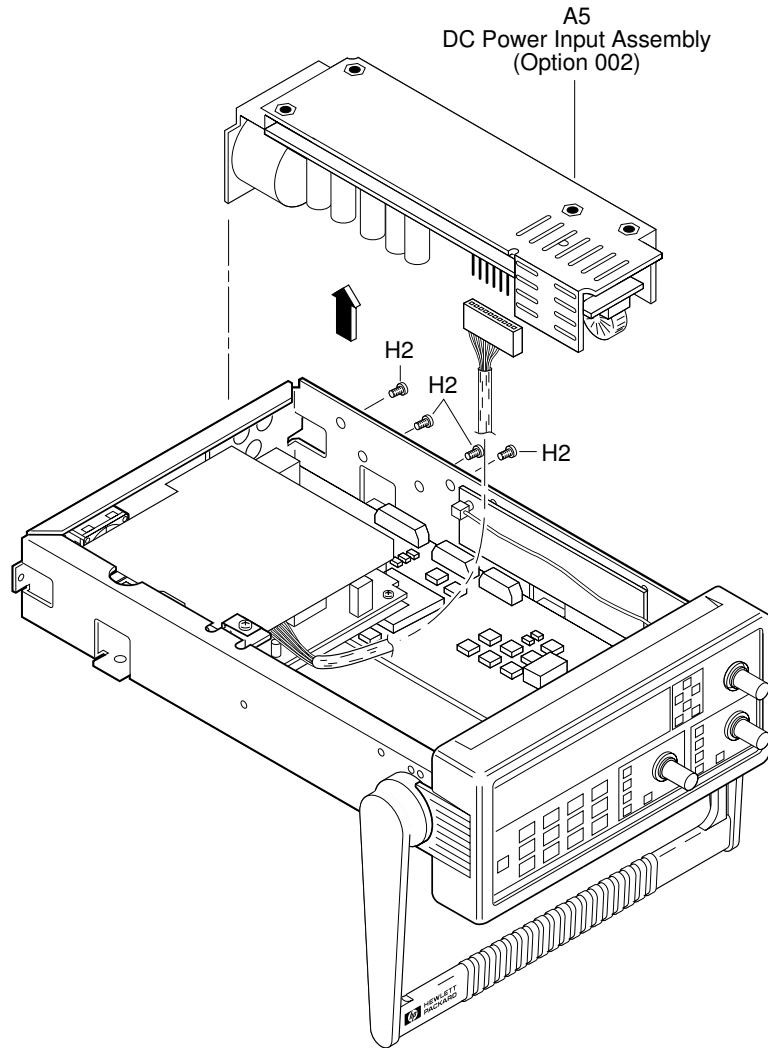

Figure 3-11. DC Power Input Assembly (Option 002) Removal
- 5 If the Counter contains the Option 002 DC Power Input Assembly, disconnect A4 AC Power Supply's other cable from Option 002 as shown in Figure 3-11.
**2 Remove the four TORX 10 screws (H2) that attach A5 DC Power Input Assembly to the side of the chassis as shown in Figure 3-11.**
- 3 Lift out A5 DC Power Input Assembly and disconnect cable as shown in Figure 3-11.**